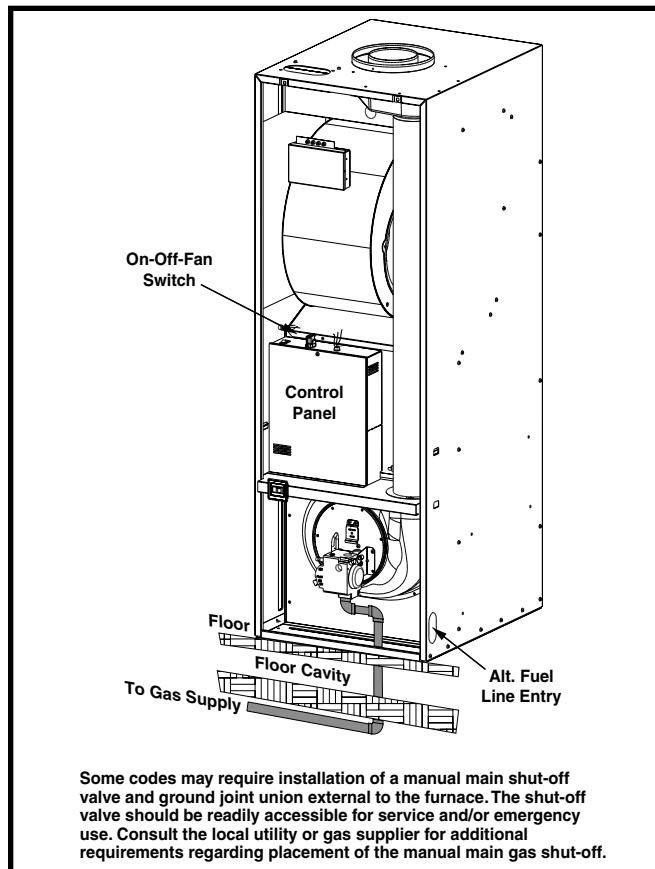

Figure 26. Typical Gas Piping
This furnace may be installed with left, right, or bottom gas entry. When connecting the gas supply, provide clearance between the gas supply line and the entry hole in the furnace casing to avoid unwanted noise and/or damage to the furnace. Typical gas service hook-up for this furnace is shown in Figure 26.
- Some local regulations require the installation of a manual main shut-off valve and ground joint union external to the furnace. See Figure 26. The shut-off valve should be readily accessible for service and/or emergency use. Consult the local utility or gas supplier for additional requirements regarding placement of the manual main gas shut-off.
- Fuel line installations other than typical installations shown in Figure 26 must comply with the fuel piping provisions stated in the Federal Manufactured Home Standard (H.U.D. TITLE 24, PART 3280) and the National Fuel Gas Code (ANSI-Z223.1/NFPA-54).